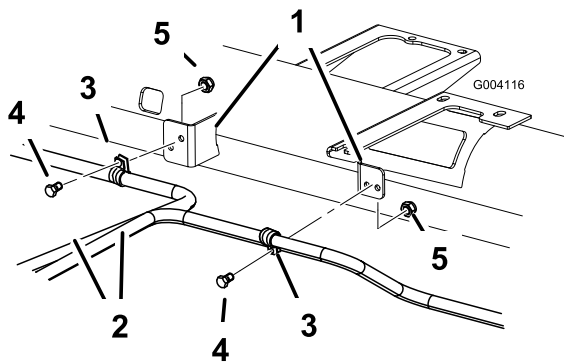

Figure 12
1. Install the R-clamps removed previously using 2 screws and lock nuts to secure the hydraulic tubes to the machine frame shown in Figure 12.